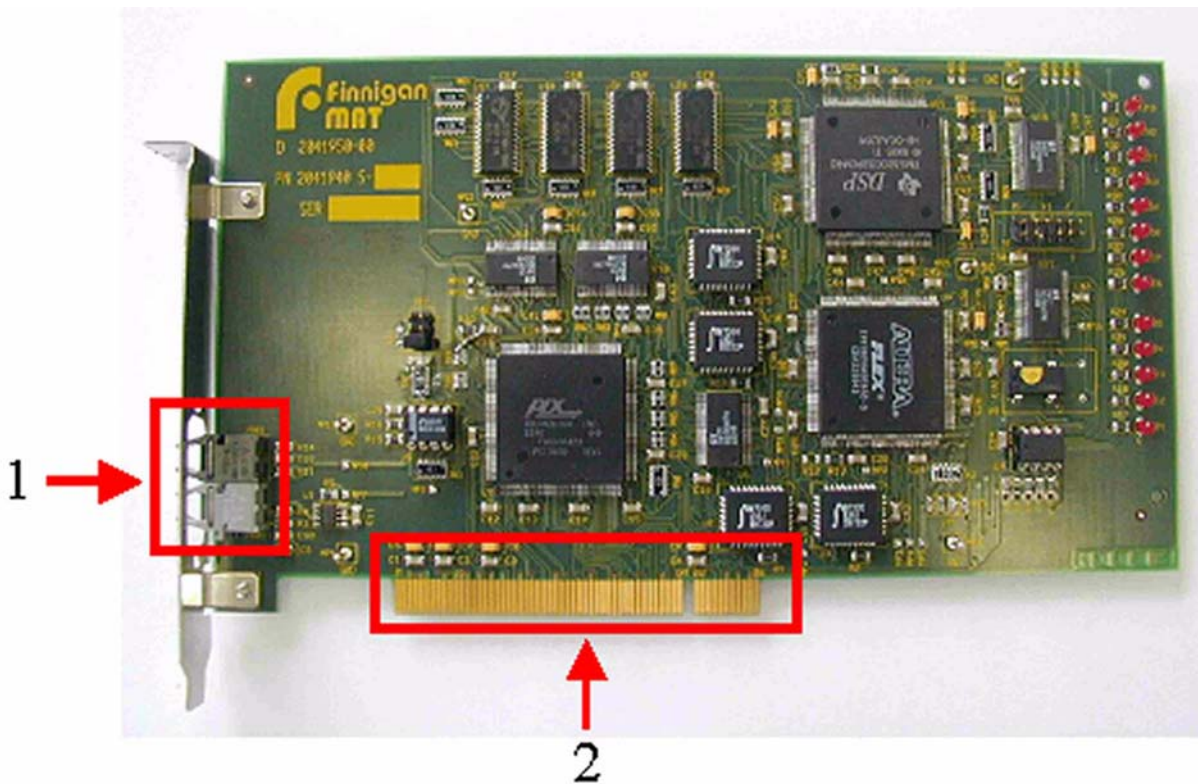

Figure 3-6. DEL-PCI Controller
The DEL-PCI controller, Figure 3-6 and Table 3-2, is plugged in a PCI slot of the computer that is delivered with the IRMS. It is connected to the bus controllers in the IRMS via optical fibers. This board is the instrument controller and contains the front-end processor.
* Refer to Figure 3-6.